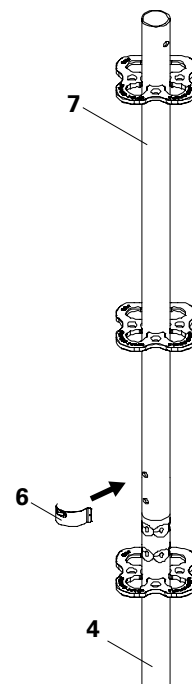

Fig. A2.9a
4. Tightly connect Standards and Base Standards using Locking Pins Ø 48/57 (6). (Fig. A2.9a/A2.9b)